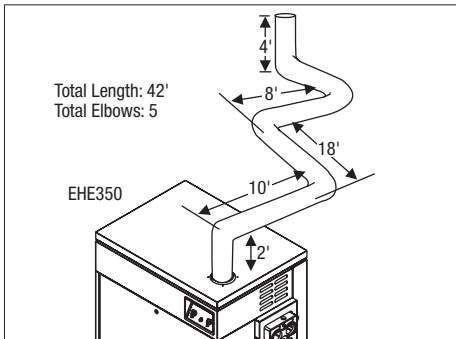

Figure 6. "One-pipe" installation.
EXAMPLE: A model 350 heater is to be installed in a one-pipe system with schedule 40 PVC or CPVC, see Figure 6. The vent pipe run is 42 feet long and has five (5) elbows. Per Table 3, Only 16 feet of 4" vent pipe would be allowable which would not allow for completion of the run. Therefore the pipe size needs to be increased. 140 feet of 5" piping would be sufficient to complete the run.